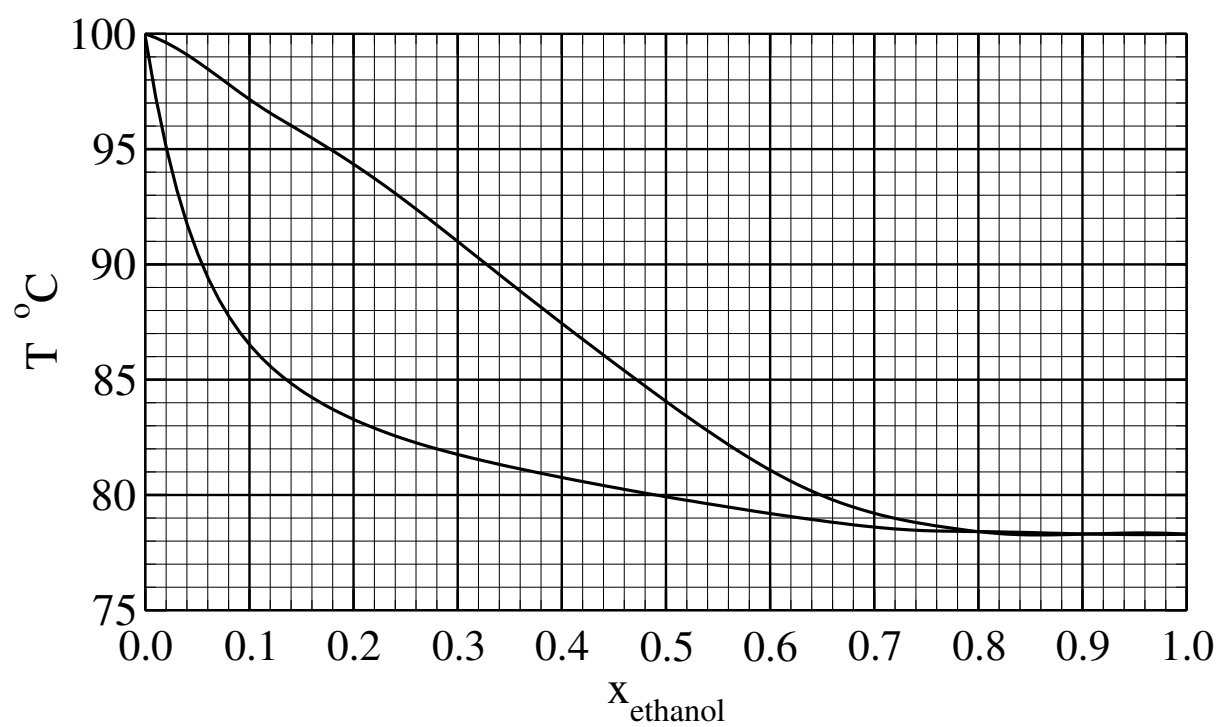

Figure 2: VLE diagram for ethanol-water mixtures at a pressure of 1 atm. This figure is needed for Q. 2a).
- a) Consider the VLE data for ethanol-water mixtures which are presented in Fig. 2.